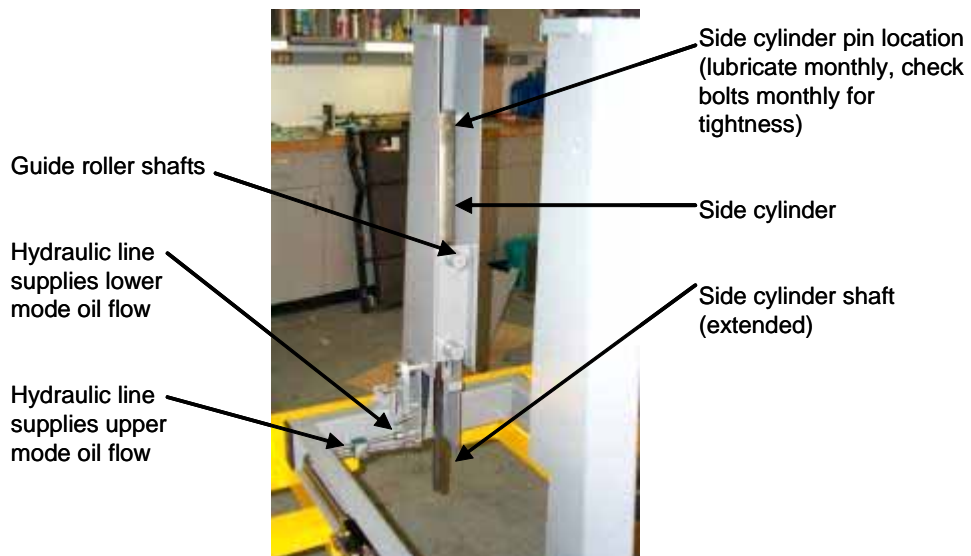

Figure 87. Mounted side cylinder.
1. Attach hydraulic lines to the fluid ports. The longer line goes to the top fluid port (lower plate) and the shorter line attaches to the bottom fluid port (raise plate) (figure 87).